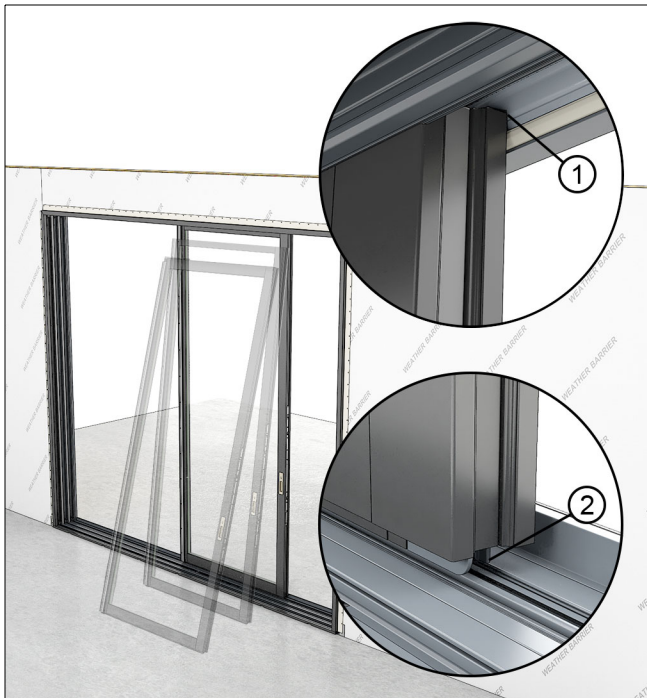

Figure 76
1. Install the primary operating panels or inactive panels first. Lift the top of the panel into the interior most head jamb track. Then swing the bottom over the sill track until centered over the roller guide. Set the panel gently onto the guide. See Figure 76.